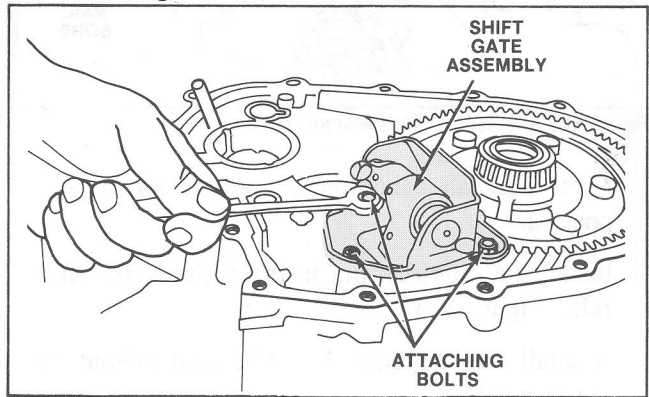

Figure 111 Shift Gate Installation
2. Position the shift gate and install the attaching bolts. (Figure 111).